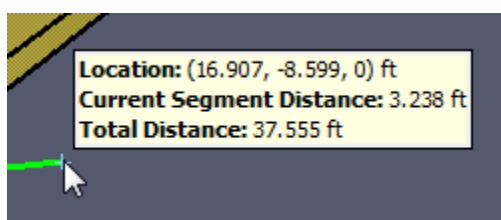

Figure 97. Information displayed by the measure tool
2. Either click several points to measure the total distance along a path or click-drag to measure a single distance between two points. As the cursor is moved, the current cursor location, total path length, and length of the most recent segment are displayed as shown in Figure 97.